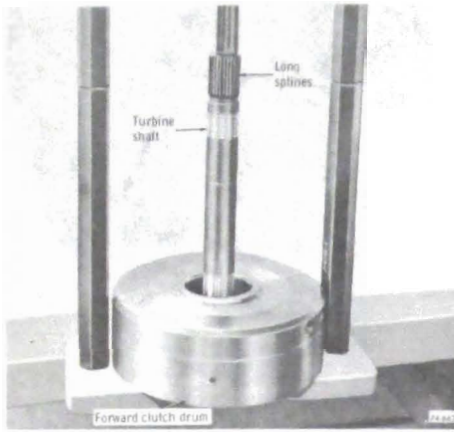

Figure 76-663
7. If removed, install turbine shaft into forward clutch drum. See Figure 76-663.